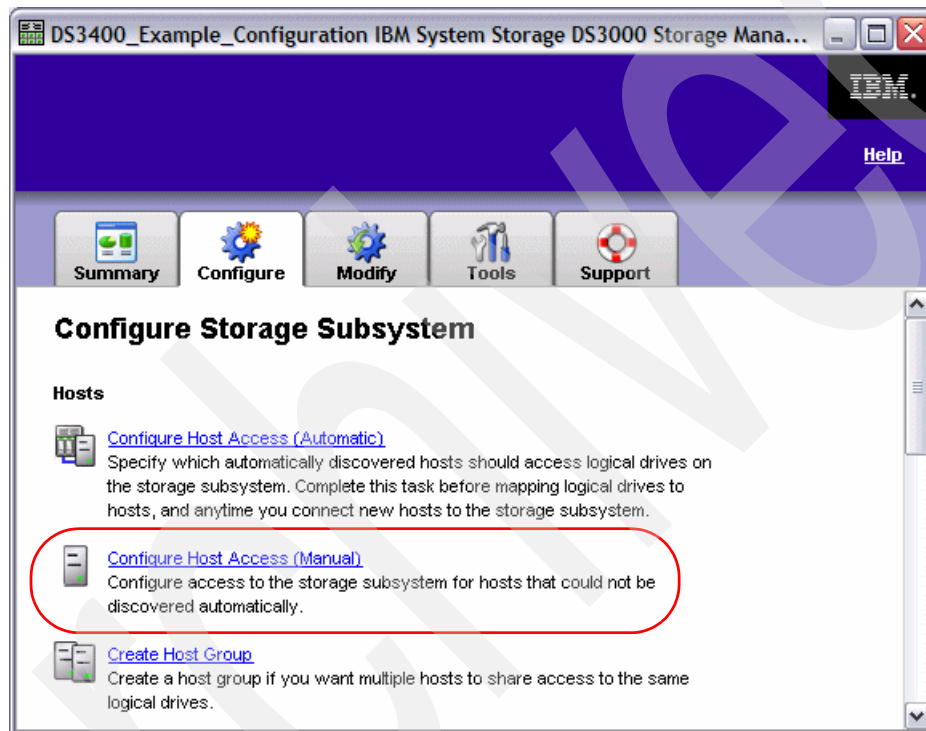

Figure 26-7 Configure Host Access (Manual)
1. In the DS3000 Storage Manager subsystem management window, select the **Configure** tab, and click **Configure Host Access (Manual)**, as shown in Figure 26-7.